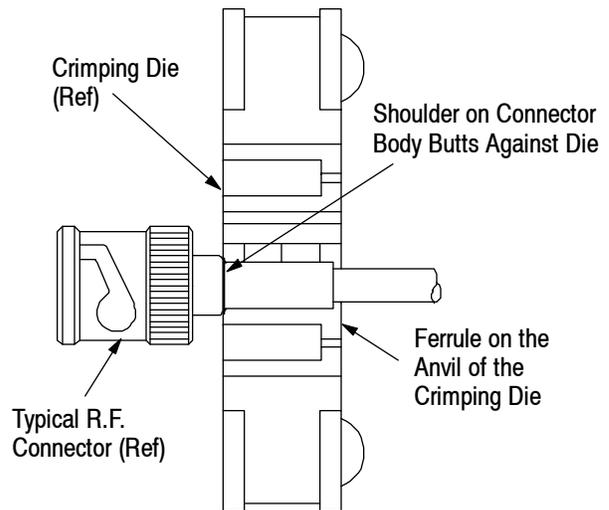

Figure 4
3. Place the ferrule on the appropriate anvil of the die assembly so that the shoulder on the connector body butts against the die. See Figure 4.